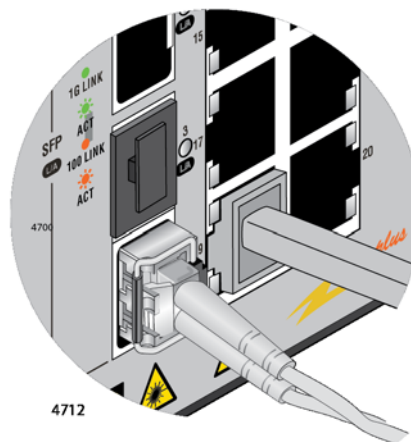

Figure 13. Spacing Between SFP Module and Twisted Pair Port
- ❑ The narrow spacing between SFP transceiver slots and adjacent twisted pair ports can make it difficult to connect and disconnect cables. Refer to Figure 13 on page 62. Allied Telesis recommends installing and cabling SFP slots before cabling adjacent twisted pair ports. You might need to use a flat tool to disconnect cables.